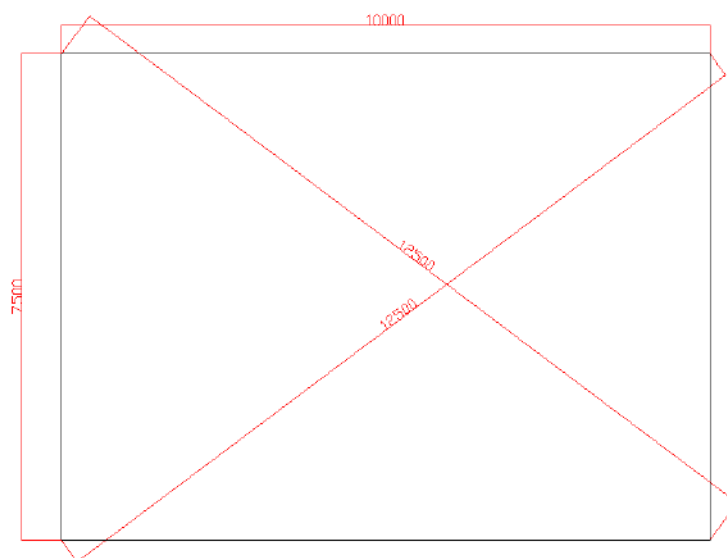

Figure 1
- Draw all lines from the center of one hole to the center of the next, ensuring diagonal measurements are equal, as shown in Figures 1 and 2.